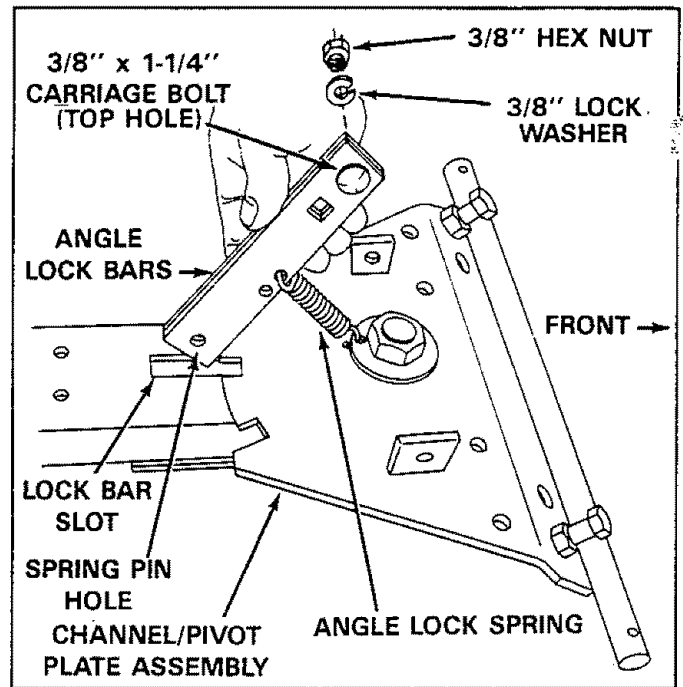
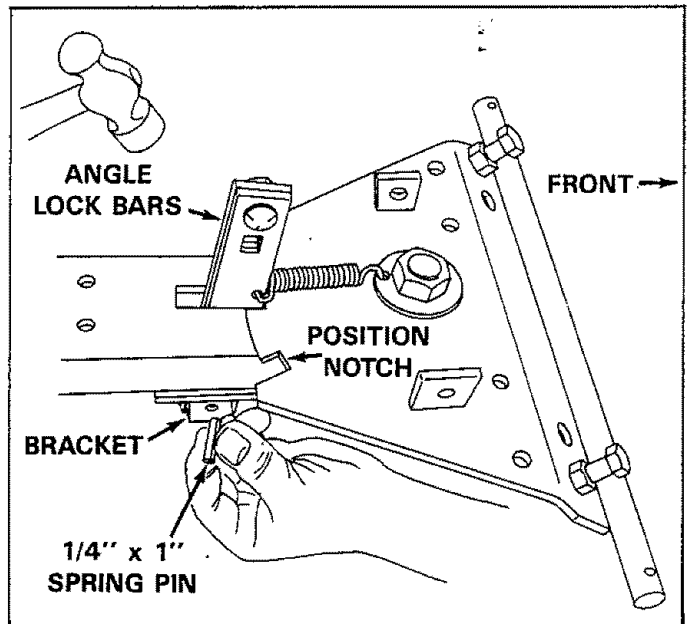

FIGURE 3
FIGURE 4
2. Assemble the two-angle lock bars together as shown in figure 3, using one 3/8" x 1-1/4" carriage bolt down through the top holes with a 3/8" lock washer and a 3/8" hex nut underneath. Do not tighten at this time.
3. Assemble the offset end of angle lock spring into small holes in angle lock bars as shown in figure 3. Slide lock bars through lock bar slot until spring pin hole is aligned with bracket on back side. See figure 4. Using a hammer drive 1/4" x 1" spring pin into lock bars until flush with bracket. See figure 4. Tighten nut in angle lock bars which was left loose in step 2.